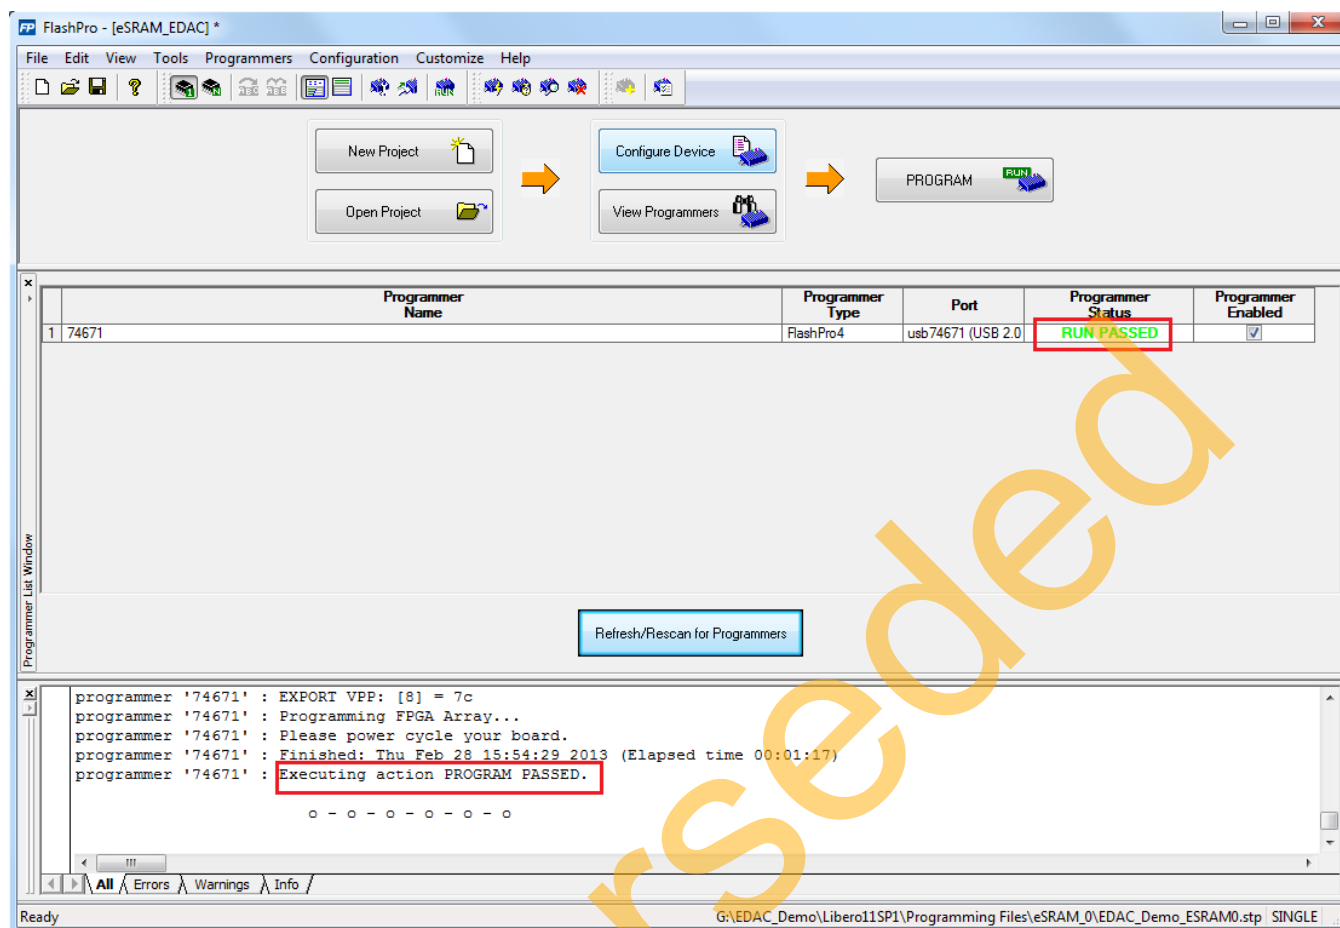

Figure 6. FlashPro Programming Window
2. Program the SmarFusion2 device with the programming file provided in the design files (`\ProgrammingFiles\eSRAM_0\EDAC_Demo_ESRAM0.stp` or `\ProgrammingFiles\eSRAM_1\EDAC_Demo_ESRAM1.stp`) using FlashPro design software, as shown in Figure 6.